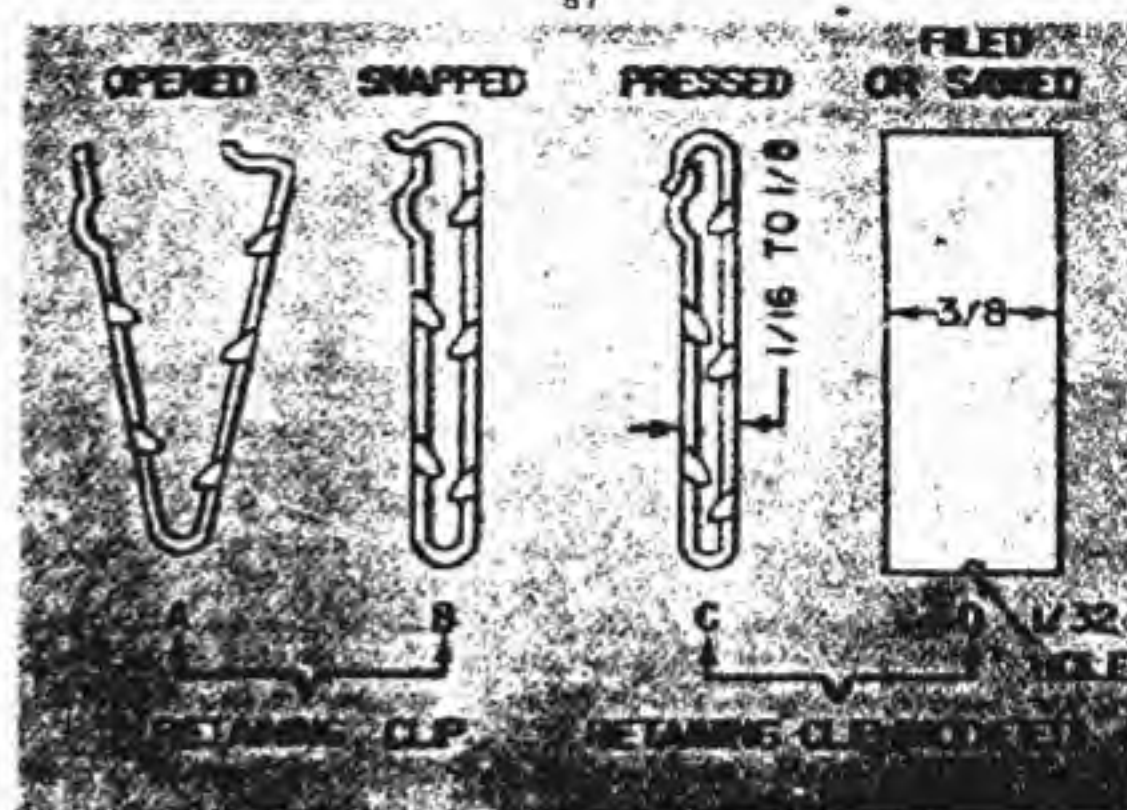

Figure 5
CONSTRUCTION (Figures 5 and 6):
a. Remove salvaged retaining clip from salvaged band (see Figure 5).